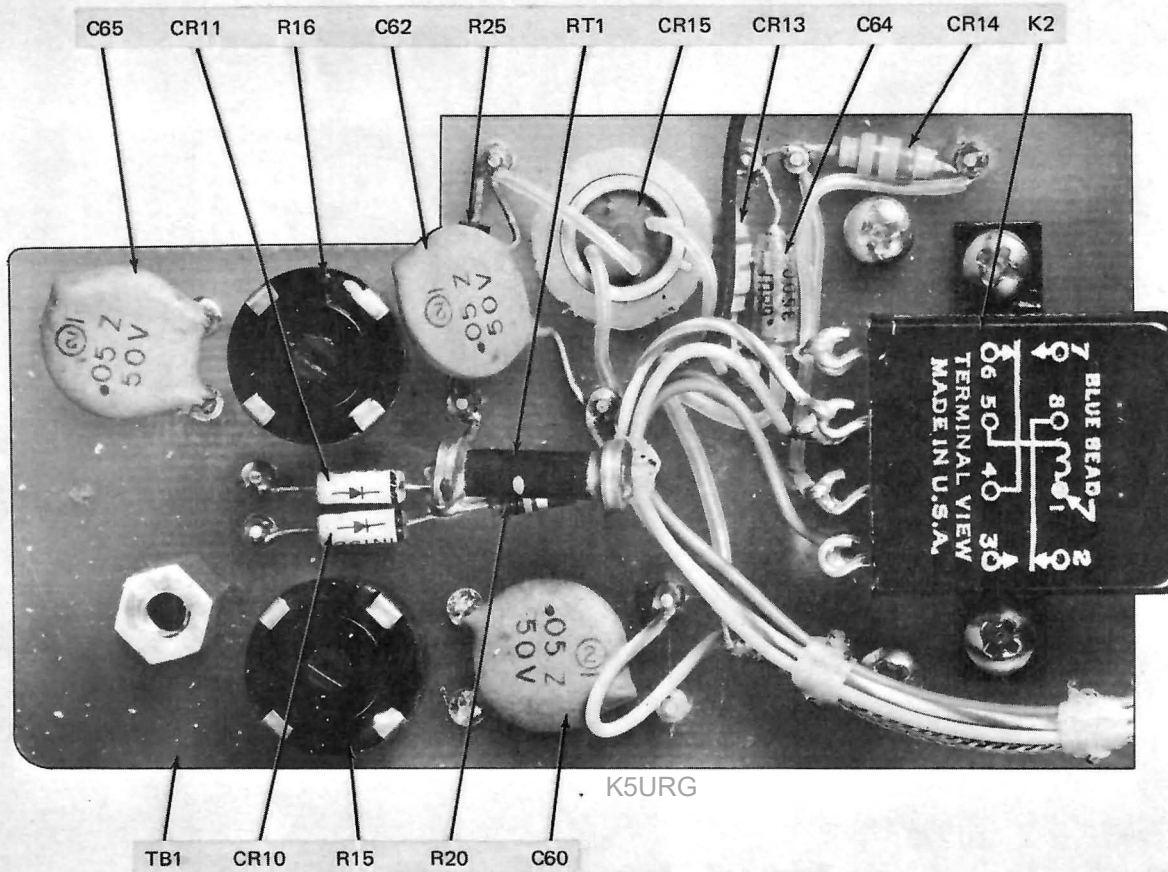

Figure 3-11. Overload protection terminal board.
(3) For correct reassembly, follow above procedures in reverse order.
j. Refer to figure 3-11. Remove the overload protection terminal board from the chassis as follows:
(1) Remove three screws and three flat washers that retain assembly to chassis.
(2) Lift assembly away from chassis to limits of attached wires.